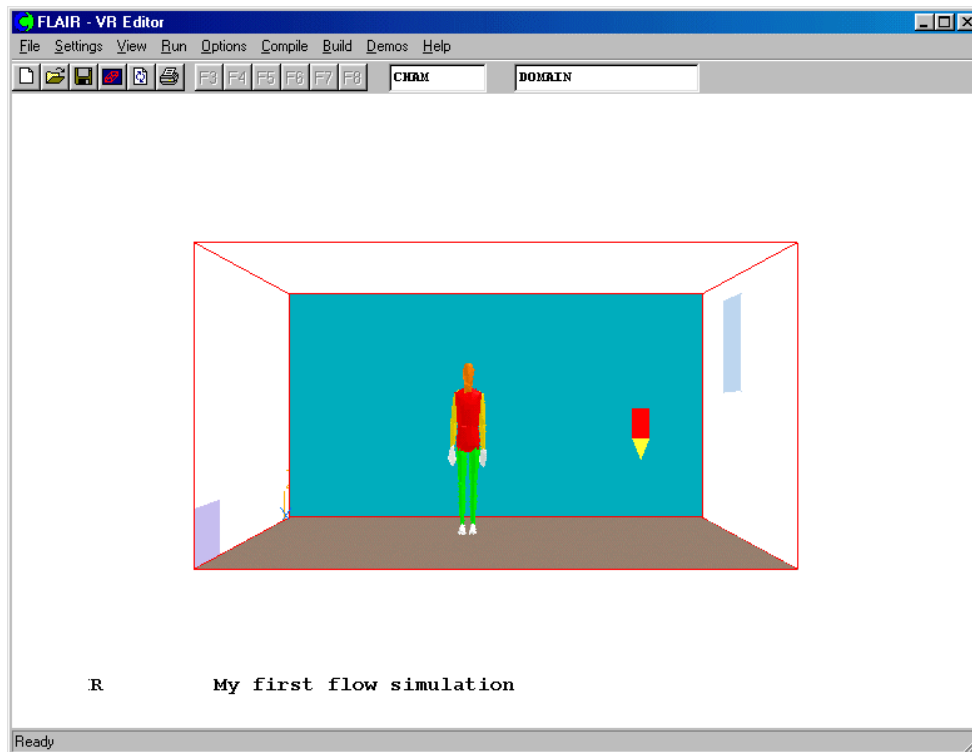

Figure 2.11 The screen picture after all the object were created
- Click on 'OK' to close the "Object specification" dialog box, and exit the "Object management" dialog box. The picture shown in figure 2.11 should appear.